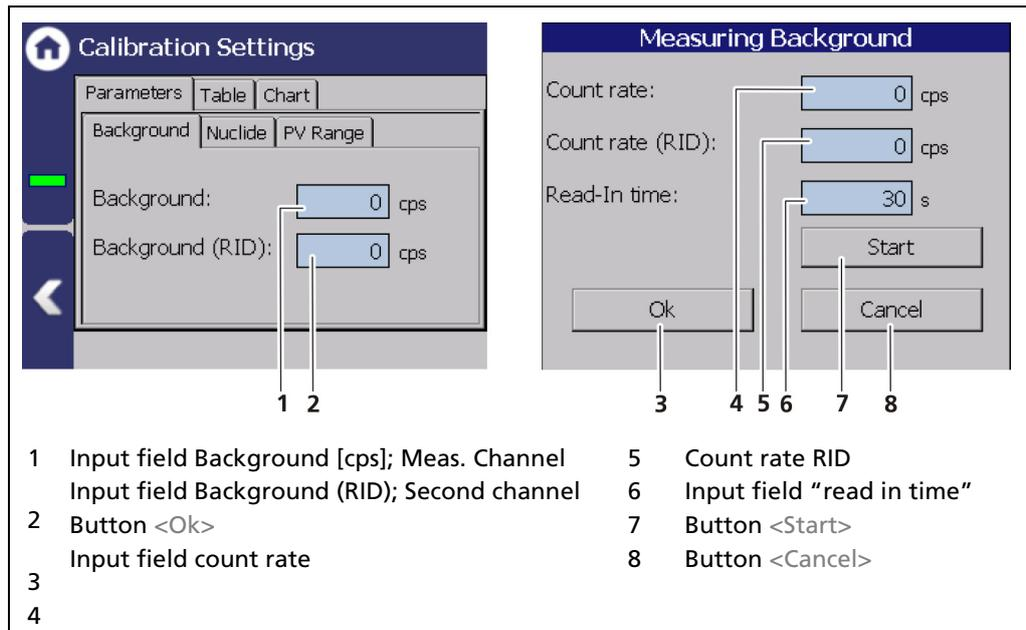

Fig. 76 Calibration Parameters: Background
The background count rate (Fig. 76, item 1) is the natural background radiation seen by the detector and must be measured at least for rod detectors. This count rate is compensated for by the system. The best approach for your background measurement is dependent on the situation on site and on the type of radiation source.
1. Click on the text field "Background" (Fig. 76, item 1).